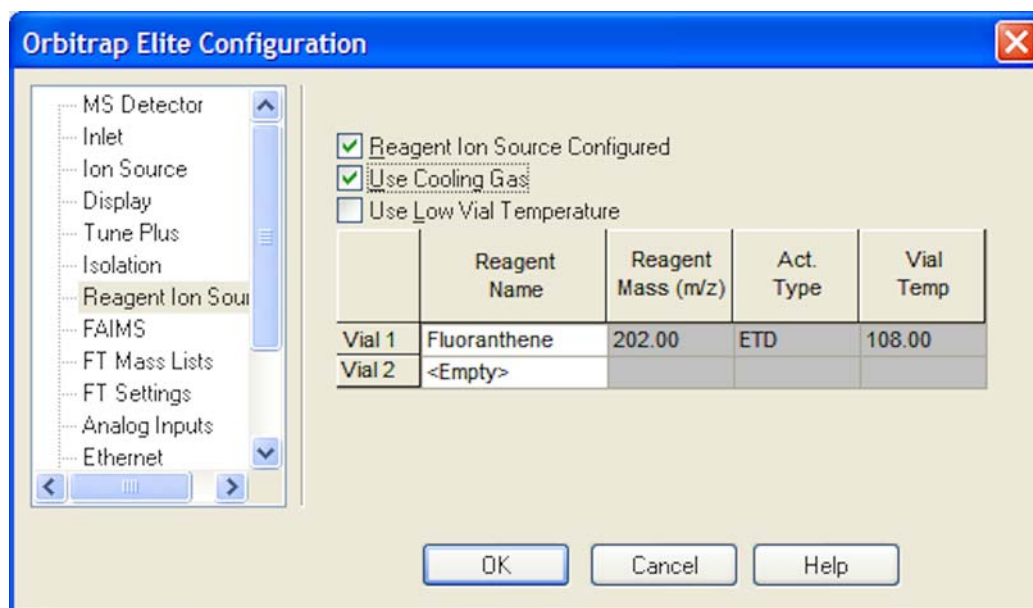

Figure 7-8. Orbitrap Elite Configuration dialog box—Reagent Ion Source page
6. Select the Use Cooling Gas check box as shown in Figure 7-8.